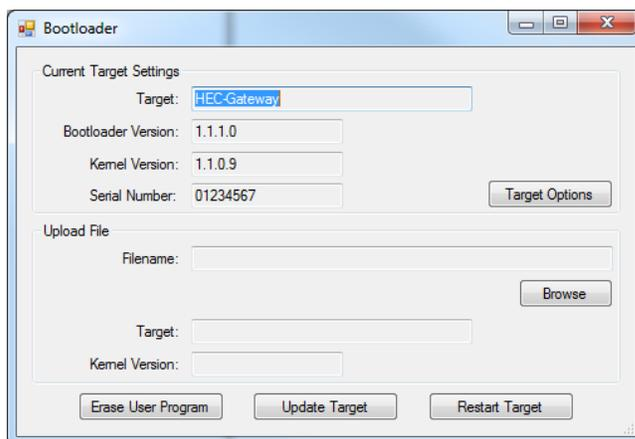

Figure 2-26 - Bootloader Screen
7. Using the menu, click **PROJECT** then **BOOTLOADER**. You may see a window momentarily while EZ LADDER connects to the HEC-Gateway device bootloader. See Figure 2-26.